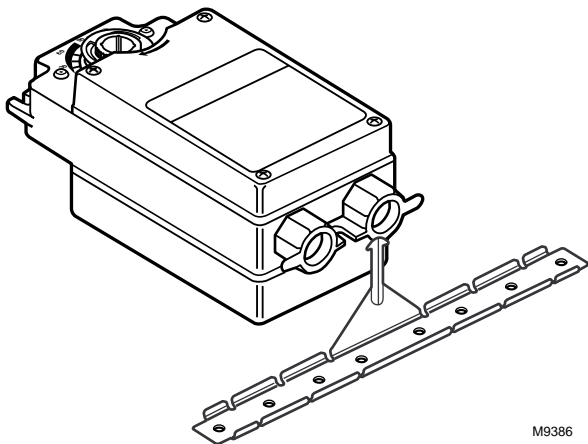

Fig. 6. Installing the mounting bracket.
3. Position and adjust the mounting bracket to support the actuator at the correct height (see Fig. 6).